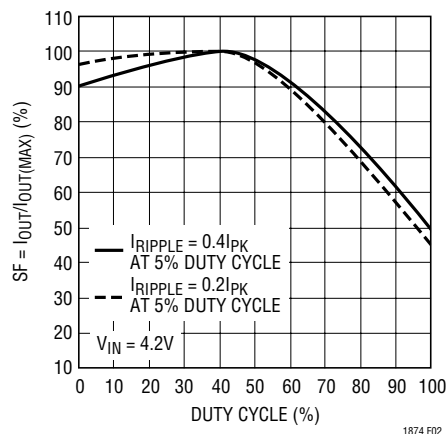

Figure 2. Percentage of Maximum Output Current vs Duty Cycle
**Note 6:** Peak current sense voltage is reduced dependent upon duty cycle to a percentage of value as given in Figure 2.
when the controller is operating below 40% duty cycle. However, once the duty cycle exceeds 40%, slope compensation begins and effectively reduces the peak inductor current. The amount of reduction is given by the curves in Figure 2.
select the appropriate value to provide the required amount of current. Using Figure 2, the value of RSENSE is: